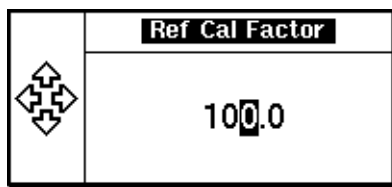

Figure 1 Reference Calibration Factor Pop Up Window
- 4 If required, change this setting by pressing the channel **Ref CF**. The reference calibration factor pop up window is displayed as shown in Figure 1.